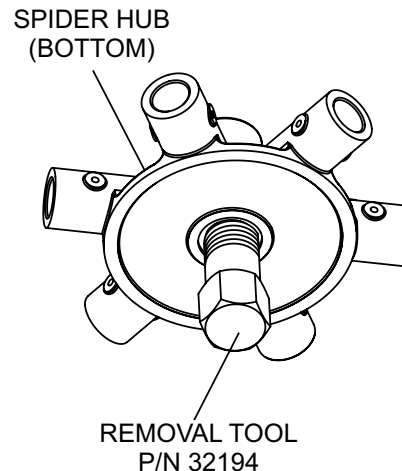

Figure 4. Removal Tool
6. Insert spider removal tool (P/N 32194) or equivalent tool into the machined threads on spider hub (Figure 4) and torque to 300 ft-lb (407 N·m).